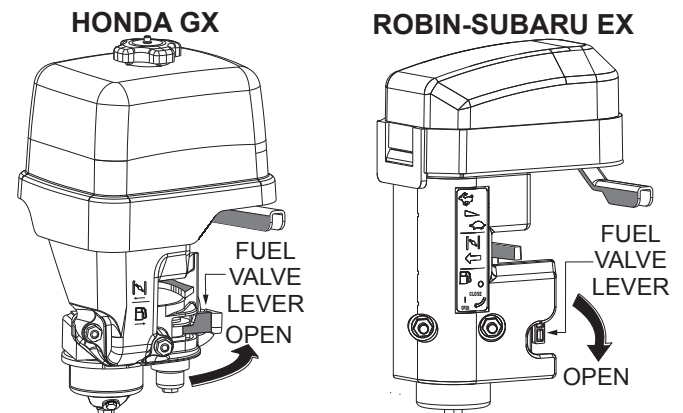

Figure 32. Engine Fuel Valve Lever (Open)
1. Place the engine fuel valve lever in the **OPEN** position (Figure 32).